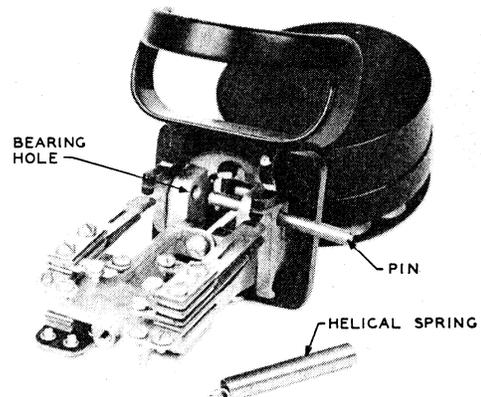

FIG. 7—SWITCHHOOK ASSEMBLY
- 4.06 Squeaks may be caused by a dirty pin. Remove pin and clean it and bearing holes with KS-2423 cloth moistened with KS-7860 petroleum spirits. (See Fig. 7.)